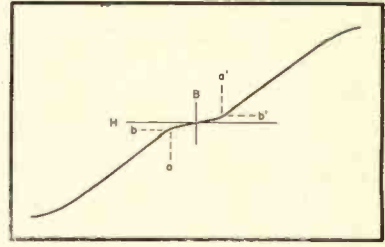

Figure 3.
At (B) there appears the waveform of the specially added voltage, corresponding in phase or polarity to that of the signal in each portion of the signal cycle, but having a fixed peak value. (C) shows the two mixed. The audio signal appears above and below the bracketed dotted lines. The audio never reaches zero. In effect the audio waveforms are plotted with two baselines, one for positive and one for negative alternations. The real baseline—equivalent to zero value of H in Fig. 3—is not reached except by the superimposed voltage in passing through it to change polarity.